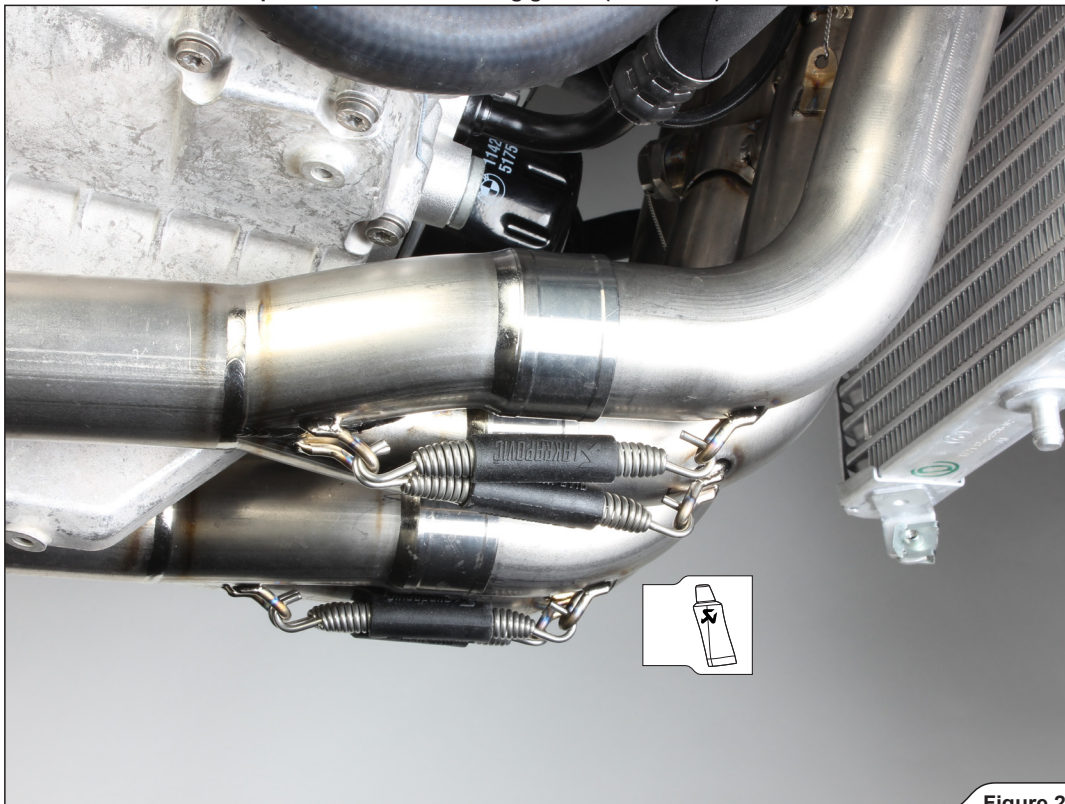

Figure 25
3. Slide the collectors onto the header tubes and attach the springs (Figure 25).